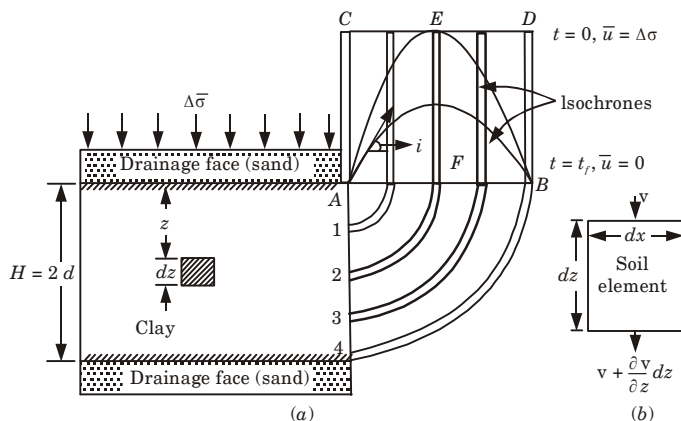

Fig. 3.12.1. One dimensional consolidation.
1. Fig. 3.12.1, shows a clay layer of thickness H , sandwiched between two layers of sand which serves as drainage faces.